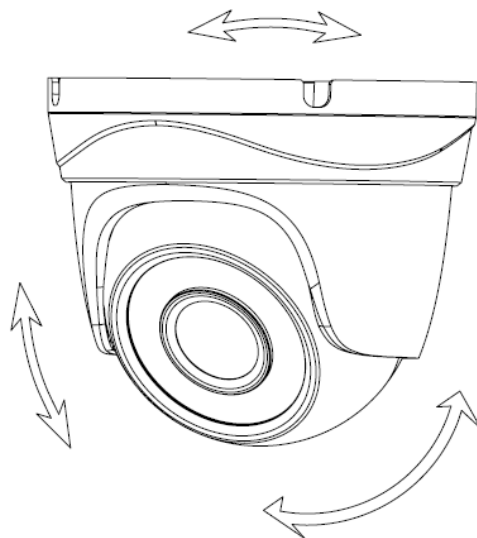

Figure 3-3
- Step 1** Find the mounting template sticker from the accessory pack and stick it to the mounting surface①
- Step 2** Drill screw holes (and the cable outlet hole if it needs to go through the mounting surface) on the mounting surface as indicated on the mounting template, then insert expansion bolts② from the accessory pack in the screw holes.
- For model A, hold the pedestal③ tightly and keep the device⑤ upward, rotate the fixing ring⑦ counterclockwise until you can detach it from above, and then take off the pedestal③.
- For model B and model C, loosen the locking screw⑨ with the supplied wrench⑧ and take the pedestal③ off.
- Step 4** Adjust the location of the pedestal③ according to cable outlet requirement (top out or side out), then pull the cable out through mounting surface or the side cable tray. Align the screw holes on the pedestal③ to those on the mounting surface, then put in and fasten the supplied self-tapping screws④ to attach the device⑤ to the mounting surface.
- For model A, put the fixing ring⑦ back to hold the enclosure⑥, leave some spaces enough for you to adjust the device⑤. Aim the lens to the ideal angle (see Figure 3-3) and fasten the fixing ring⑦.